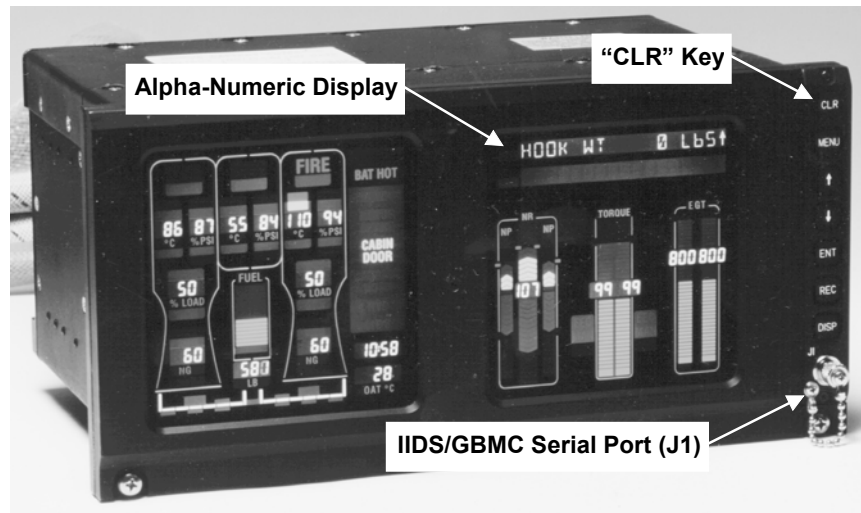

Figure 15. Integrated Instrument Display System (IIDS)
2. Connect the special round serial port cable connector to the **J1** port on the front of the IIDS display (refer to Figure 15).
4. Press the **CLR** button (refer to Figure 15) on the IIDS and hold for approximately 2 seconds to clear the IIDS alpha-numeric display. This will allow the upload, download and connect messages to be properly displayed on the IIDS alpha-numeric display when performing these procedures with the GBMC.